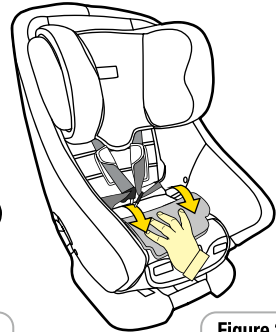

Figure 2
**Step 2:** Fold the cover and padding forward (refer Figure 2).